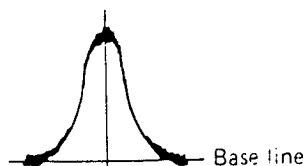

Fig. 12
- Note 4: Check the waveform shown in Fig. 12 is obtained.